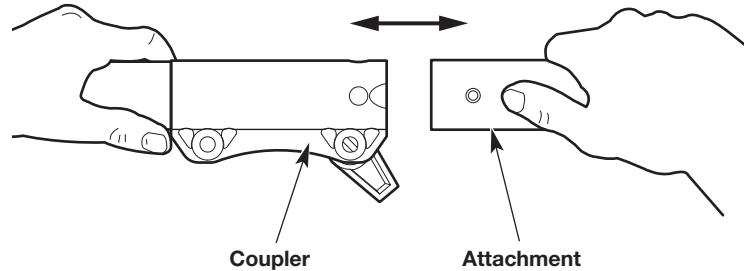
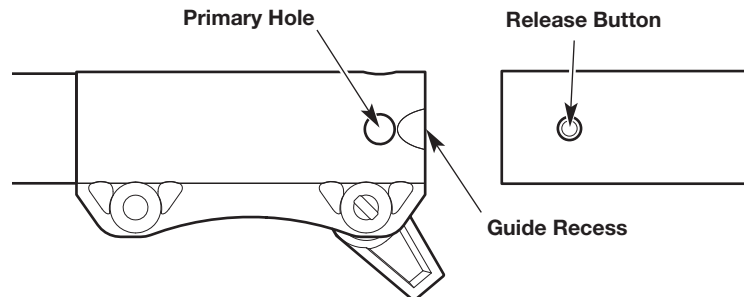

Fig. 6
Fig. 7
4. Align the release button with the guide recess (Fig. 7).
5. Push the attachment straight into the coupler (Fig. 6) until the release button snaps firmly into the primary hole (Fig. 7).
3. Press and hold the release button (Fig. 7).
4. Pull the attachment straight out of the coupler (Fig. 6).